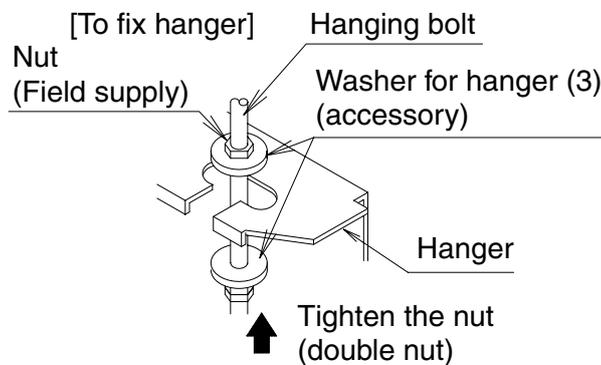

Fig. 2
(1) Install the indoor unit temporarily.
Make sure to securely fix the hanger with the nut and the washer for hanger (3) from the upper and lower side. (Refer to Fig. 2)